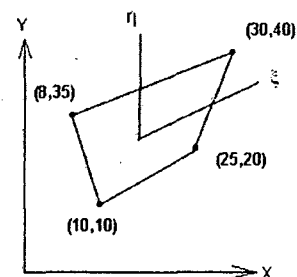

Fig.15.b
- ii). For the four noded element shown in Fig15.b determine the Jacobian and evaluate its value at the point  $(1/3, 1/3)$ . (8marks)